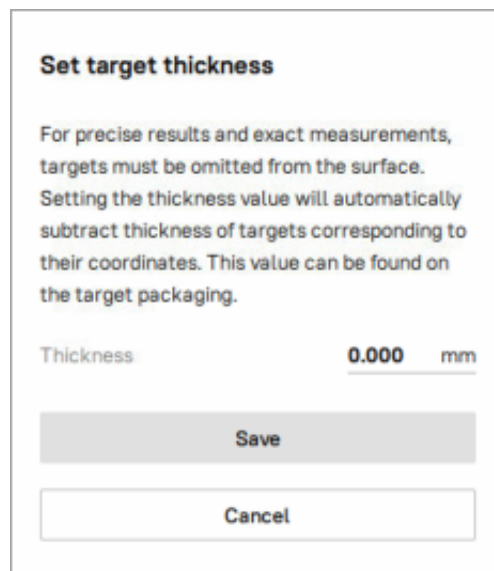

Figure 55: Target thickness compensation dialog.
5. Set a target thickness value in open dialog. This value will be automatically subtracted from the surface for precise result. You can find the set value in the *Properties* panel of the *Workspace* (See Figure 55).